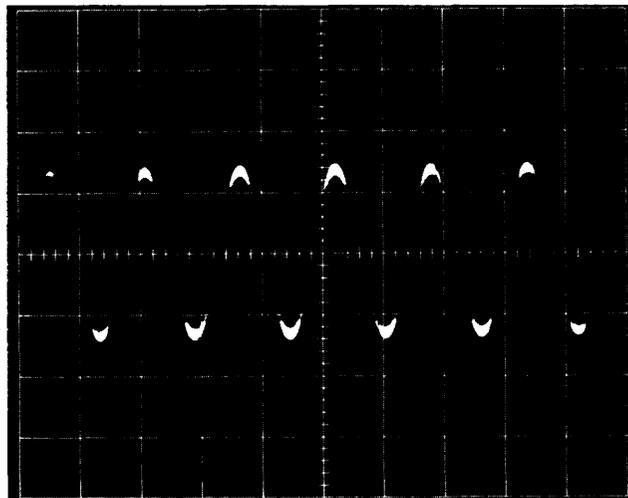

Figure 5-12: Write 2F Waveform
6. Depress and release the WRITE 2F pushbutton and again observe the scope display. The presentation should be like that of Figure 5-12. Waveform distortion indicates read/write circuit failure.